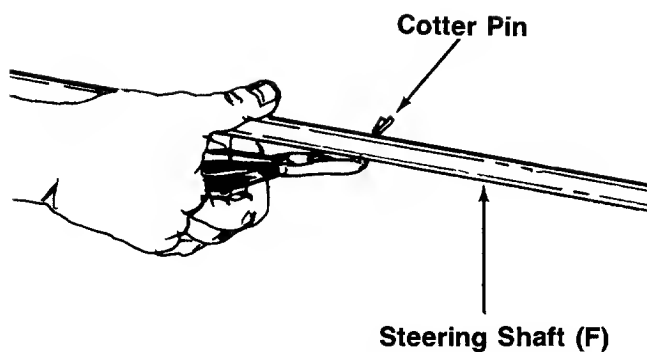

FIGURE 3.—Style A Only
1. Insert the **cotter pin** into the hole on **steering shaft** (F). Secure in place by bending the ends of the cotter pin in opposite directions. See figure 3.